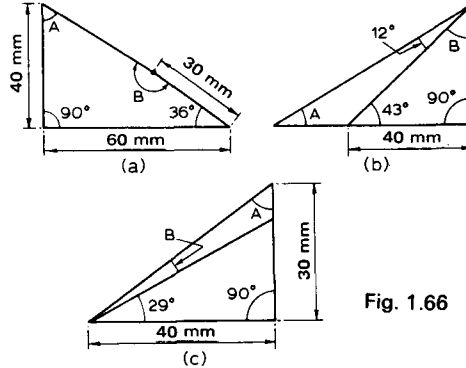

Fig. 1.66
- Using a protractor and rule draw the diagrams shown in Fig. 1.66. In each case measure the angles  $A$  and  $B$ .